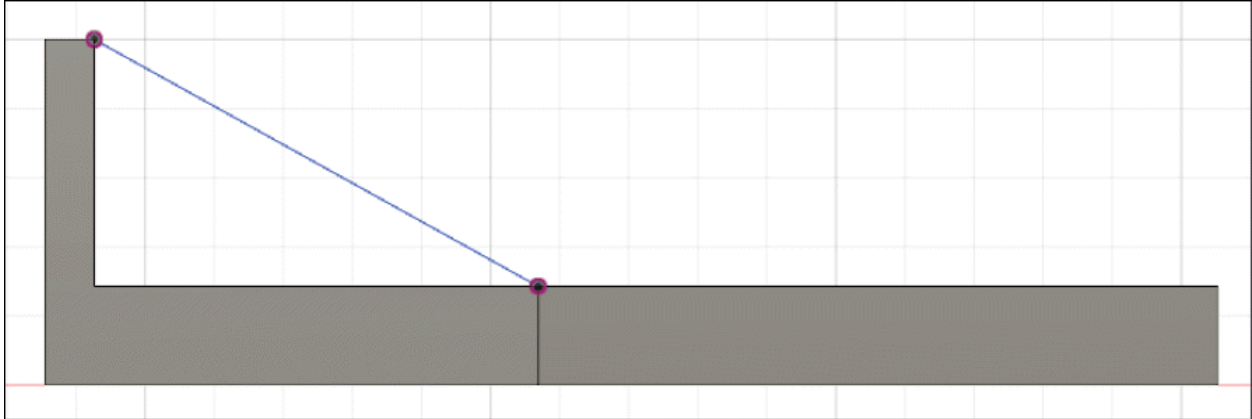

Figure-22. Creating sketch for rib
- Create a line as shown in Figure-22 with end points coincident to the vertices of model and finish the sketch.